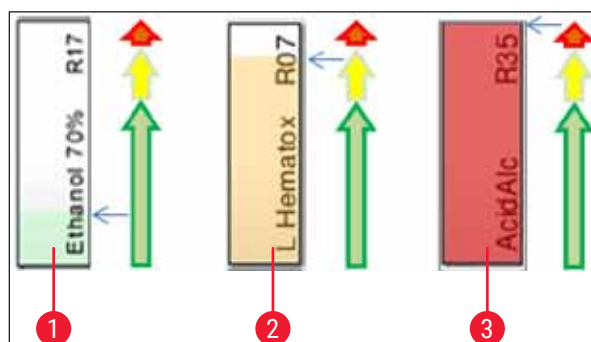

Fig. 70
- A background color (→ "Fig. 70")
- The background color shows the consumption status of the reagent (→ "Fig. 70"). As the reagent is consumed, the color bar rises from the bottom to the top and changes color based on the consumption status.